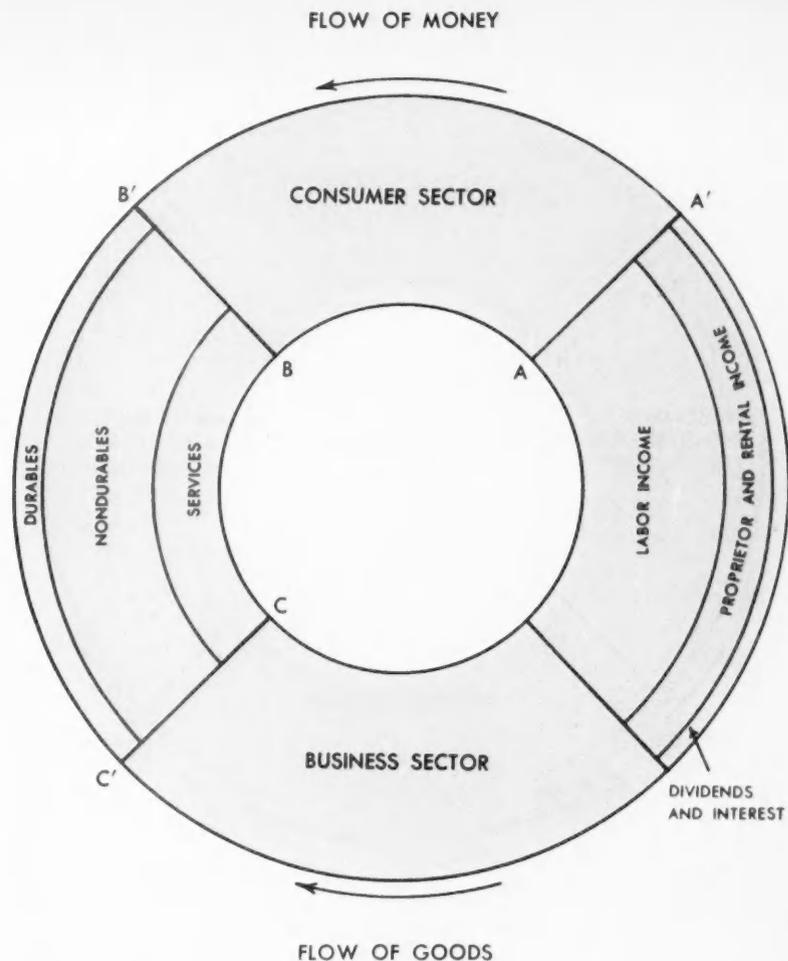

FIG. 1. MONEY AND GOODS FLOW IN OPPOSITE DIRECTIONS IN ANY SALES TRANSACTION
These national accounts provide the necessary elements for constructing the nation's economic circuit. Basically it is this: The money you pay for a suit of clothes represents the payments made to those who helped in the production of the suit, all the way from the retail store to the sheep raiser or producer of chemical raw materials. Each person or business that added to the value of the materials, and of the suit, received an income for his contribution. The sum of these incomes equals the retail value of the suit—and constitutes sufficient purchasing power to buy the suit. If you total all purchases of consumer goods in the economy and all the incomes paid out for their production, you have a picture such as that in Fig. 1. Consumers send a flow of money counterclockwise down to the business sector in payment for durable goods, nondurable goods, and services that they buy. Businesses pay out this stream of money as income to those who assist in producing the goods and services. And this return flow of incomes—labor income, proprietor and rental income, dividends, and interest—closes the flow of money counterclockwise around the economic circuit.
If our economy were as simple as that in Fig. 1, we should have no problem of
For example, in the neighborhood of one Mev—the kinetic energy with which fission neutrons are produced—the primary nuclear interaction is elastic scattering. The nuclear cross section is then about equal to the geometric cross section of a nucleus:  $5$  to  $10 \times 10^{-24}$  square centimeters. As the motion of the neutron decreases (Fig. 1) the average cross section increases in approximately inverse proportion to the neutron's velocity.
**FIG. 1. VELOCITY DEPENDENCE** of nuclear cross sections observed with velocity selector. Peaks are points of resonance where capture or scattering of neutrons is large.